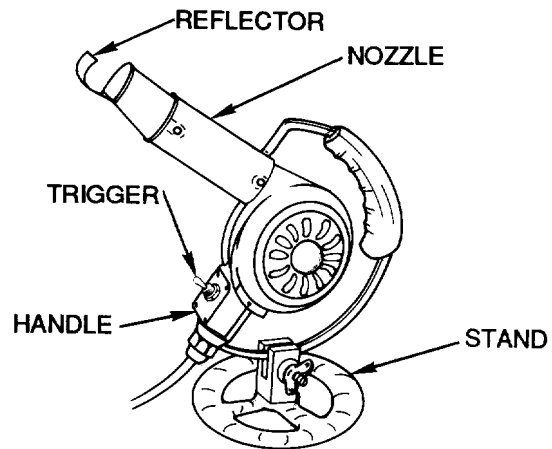

Figure 17. ThermoGun Mark II Heating Tool, CV-5000 with Stand
(1) Clean contaminated surfaces of front reflector and outer face of lamp filter with a soft cloth and isopropyl alcohol.
(2) Install front reflector being careful not to contaminate inner reflective surface.
51. ThermoGun Mark II heating tool, CV-5000 (Figure 17), is a rugged stand mounted or hand held hot-air tool engineered with a turbo fan driven blower and double jacketed element housing for heavy duty use. Combining features and options such as adjustable side vents, a wide variety of reflectors, and two temperature ranges (determined by model selected). ThermoGun provides precise control when terminating abroad range of heat shrinkable products, including boots and tubing up to 3 inches in diameter. Specifications are listed in Table 5.
52. **PRE-OPERATION.** Prior to using heating tool (Figure 17), Proceed as follows:
54. **OPERATION.** To operate heating tool (Figure 17), proceed as follows:
55. **POST-OPERATION.** After using heating tool (Figure 17), proceed as follows: